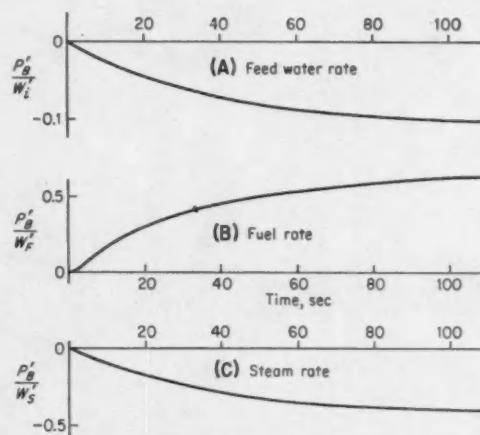

FIG. 5. Open-loop transient response of pressure with step-change in feed-water rate, fuel rate, and steam rate.
Open-loop transient response of such critical boiler variables as drum pressure, water level, and superheater outlet temperature with respect to steam flow rate, fuel flow rate, and feed-water flow rate, are obtained by computer simulation. Figure 5 shows the responses of drum pressure P_B to a step-change in feed-water rate (A), fuel rate (B), and steam flow rate (C). The variables for these curves are normalized such that ' indicates percent change from the steady-state value of that particular variable. The response curves indicate that transfer functions P_B'/W_F' , P_B'/W_F' , and P_B'/W_S' can be approximated, with reasonable accuracy, by single time constants.
Dynamic responses of the drum pressure and water level for three boiler inputs (Figures 5 and 6) are obtained from analog simulation of the boiler and are, of course, in the time domain. To get controller transfer functions C_{FP} , C_{Fy} , C_{FS} , C_{iP} , C_{iy} , and C_{is} , boiler transfer functions have to be expressed in the frequency domain as E_{PP} , E_{Pi} , E_{PS} , E_{yF} , E_{yi} , and E_{yS} . For simplicity, transfer functions relating pressure to boiler input variables are approximated as single time constants in the form:
The numerical values of gains and time constants in the boiler transfer functions are obtained from the open-loop transient responses, Figures 5 and 6. First a realistic time response for the variables is assumed; then the controller transfer function is obtained in numerical form, ready for synthesis and simulation. The development of these steps is shown below:
The analog computer results, Figures 5 and 6, give the open-loop responses of boiler pressure and water level to three step inputs. The gains K_1 through K_8 and time constants τ_1 and τ_2 can be determined from them. Then, simulated controller transfer functions are determined in numerical form from Equations 22 through 27, as shown in Table II for the Navy boiler under consideration.